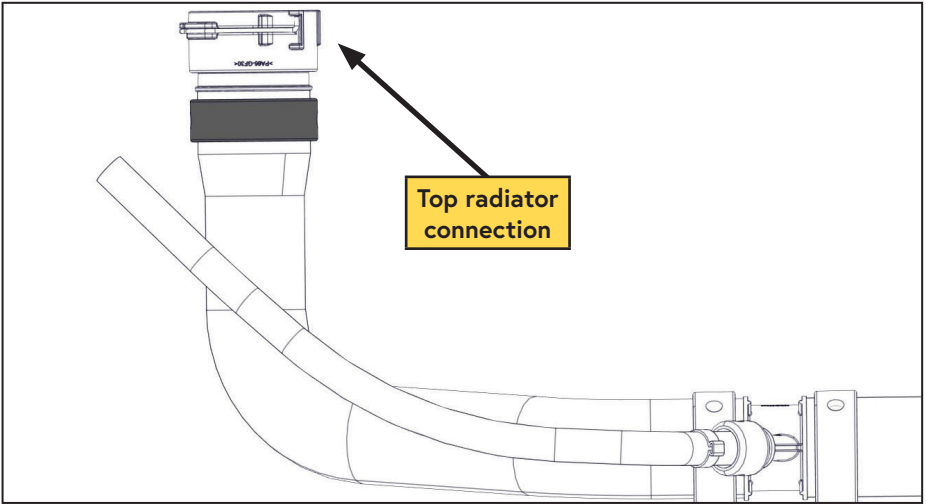

Figure 14 — Remove quick connect
- ☐ Being careful not to damage the connector, cut the molded cuff from the hose and set the quick connect aside for use later (Figure 14).